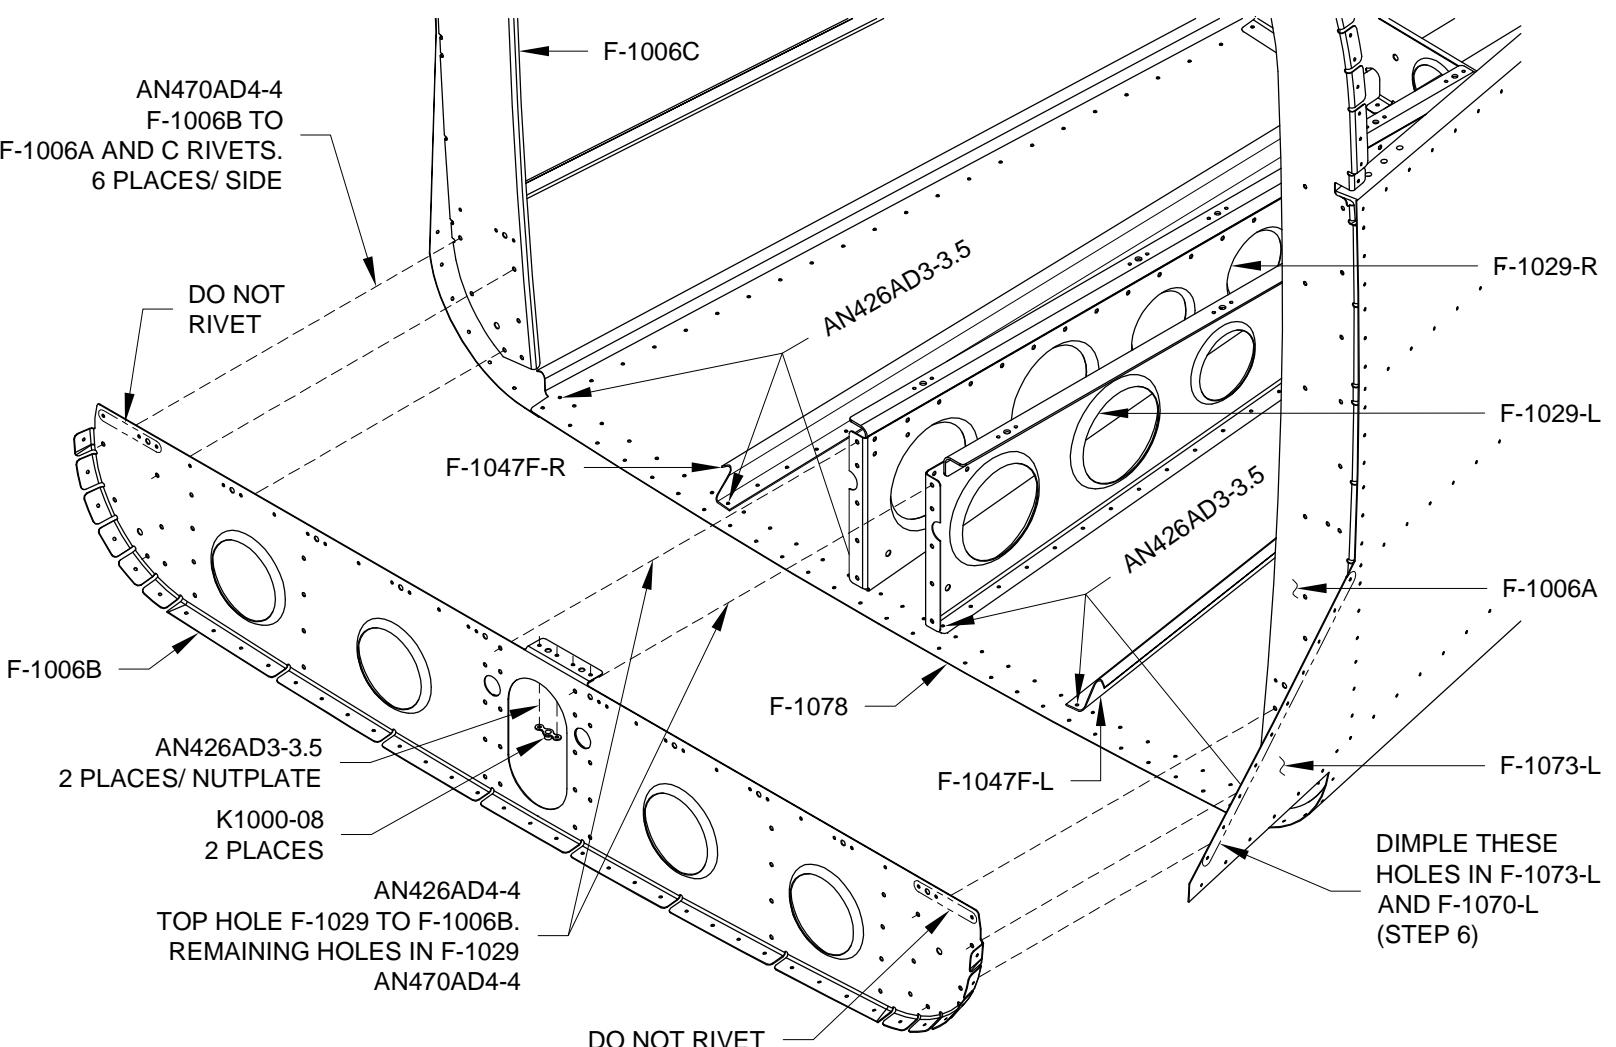

FIGURE 1: RIVETING THE F-1006B BULKHEAD
Step 7: If not already done, set rivets in the six indicated holes (see Figure 1) in the F-1078 Tailcone Forward Bottom Skin, the F-1029 Bellcrank Ribs, and the F-1047 Stiffeners using the rivets called-out.
Step 8: Rivet the two nutplates to the small flange of the F-1006B Bulkhead using the rivets called-out in Figure 1.
Step 9: Rivet the F-1006B Bulkhead to the F-1006A and C Bulkheads using the rivets called-out in Figure 1. DO NOT set any rivets in the holes indicated in the figure.
Step 10: Rivet the F-1006B Bulkhead to the F-1029 Bellcrank Ribs using the rivets called-out in Figure 1.